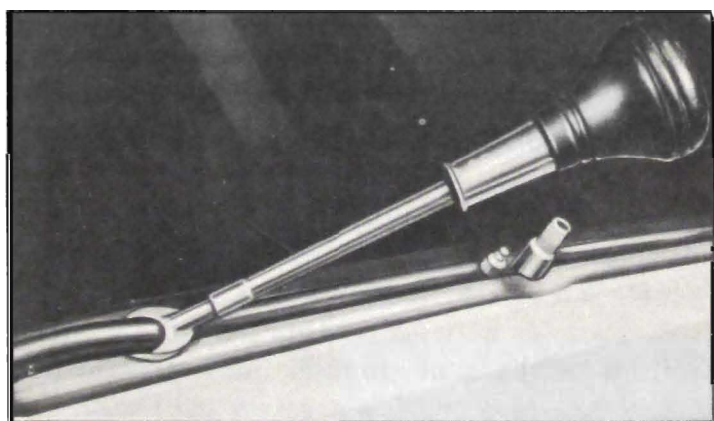

Figure 13-36—Installation of Glass Channel Filler Strip—
5. Insert lower end of the glass filler strip through the eye of Replacer J 2727. Starting at center division, insert end of tool into groove of glass channel and push along to “zipper” the filler strip into place. See figure 13-36. Repeat with upper end of filler strip to complete the installation.